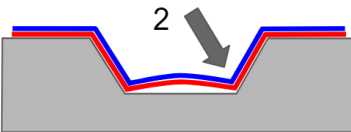

Fig.4
- 4) Repeat the same application process to the second corrugation as seen above. *Fig.4*